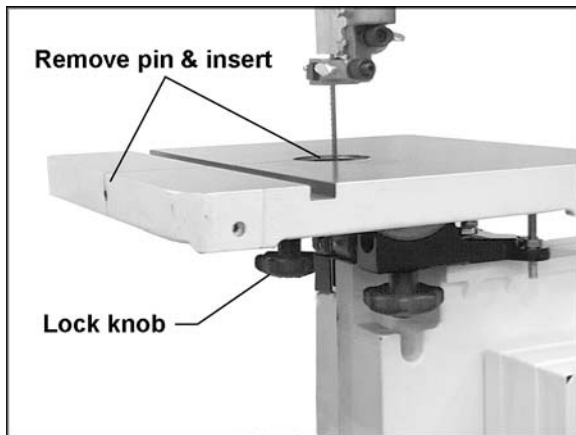

Figure 19
13. To mount the table, remove pin and insert from the table (Figure 19).
14. Orient the table so the saw blade will pass through the slot in the table and into the center opening. Continue holding up the table, and rotate the table so the two screws that are hanging vertically from below the table will slide into the holes on the trunnion support bracket. Lower the table. The screws should now protrude below the trunnion support bracket - attach lock knobs to the ends of these screws. (Figure 19).